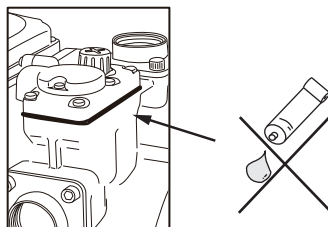

Fig. 4
8. Regular maintenance requires you to open the prime cover in order to access the check valve. DO NOT apply any bonded material (such as silicon, glue etc) to seal the chamber cover ( See Fig 4).